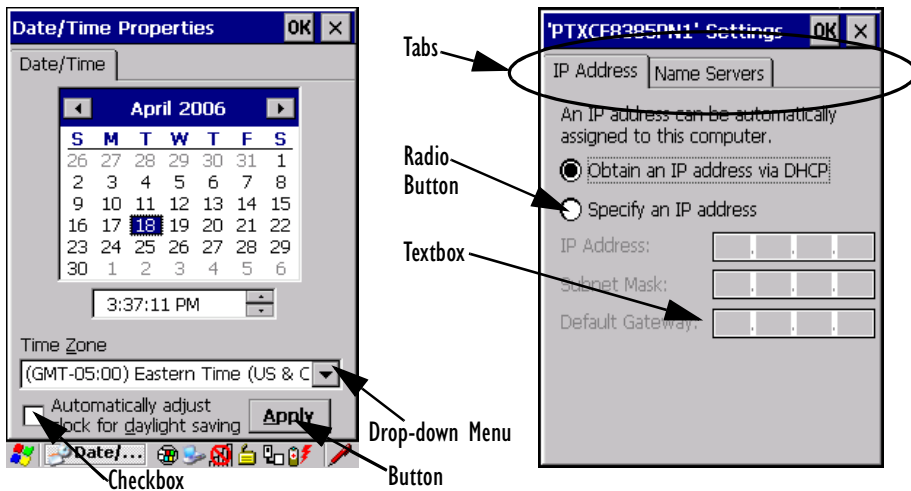

Figure 4.14 Dialog Boxes
A dialog box (like the samples in Figure 4.14) appears when you need to make selections and enter further information. You can move between dialog items by tapping on them with your stylus, or by pressing the arrow keys and the [TAB] key ([SHIFT] [TAB] moves the cursor backwards).
**Radio buttons:** These buttons allow you to choose from a number of options. For example, in the sample screen in Figure 4.14 on page 71 you can choose to *Obtain an IP address via DHCP* or *Specify an IP address*. Press the [TAB] key to highlight a radio button option, and then select a radio button by pressing the arrow keys to highlight the appropriate option.